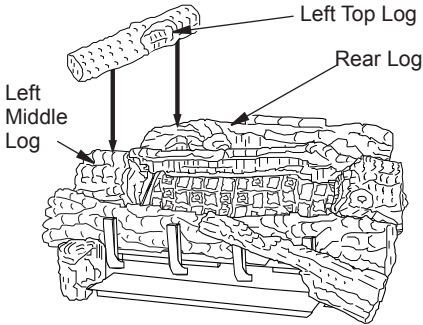

Figure 35 - Installing Left Top Log
9. Place the left top log onto the rear log and the left middle log. Make sure to place the projection on the bottom of the left top log into the recessed areas on the rear and left middle logs (see Figure 35).